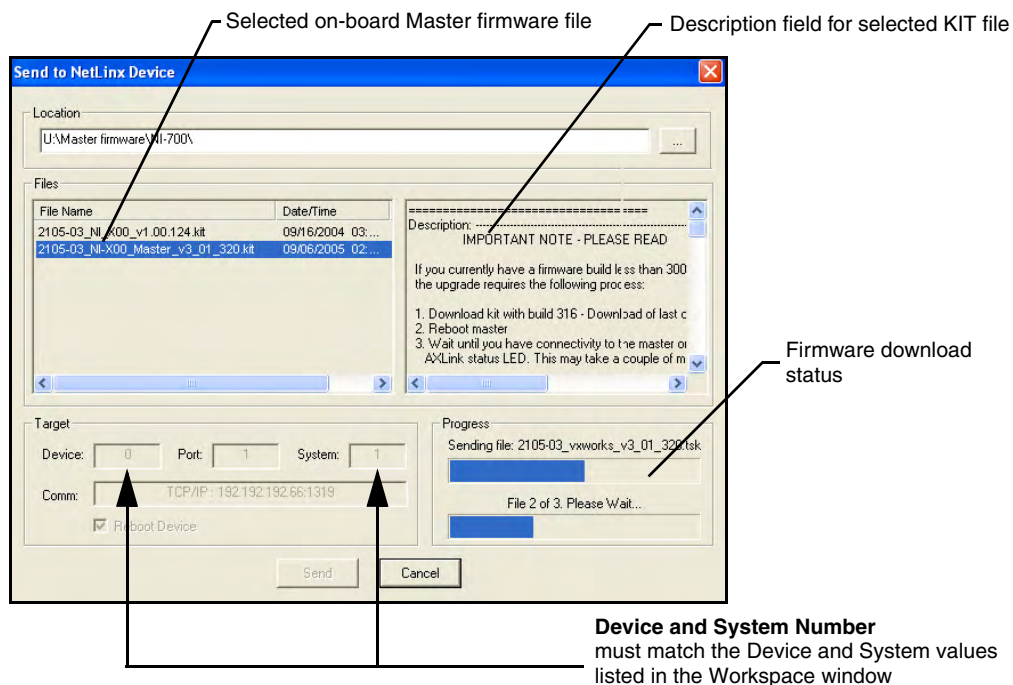

FIG. 32 Send to NetLinx Device dialog (showing on-board NI_Master firmware update via IP)
7. From within Studio, select **Tools > Firmware Transfers > Send to NetLinx Device** from the Main menu to open the Send to NetLinx Device dialog (FIG. 32). Verify the target's System number matches the value listed within the active System folder in the **OnLine Tree** tab of the Workspace. **The Device number is always 0 for the NI Master.**
8. Select the NI Master's KIT file from the **Files** section (FIG. 32).
11. Click **Send** to begin the transfer. The file transfer progress is indicated on the bottom-right of the dialog (FIG. 32).